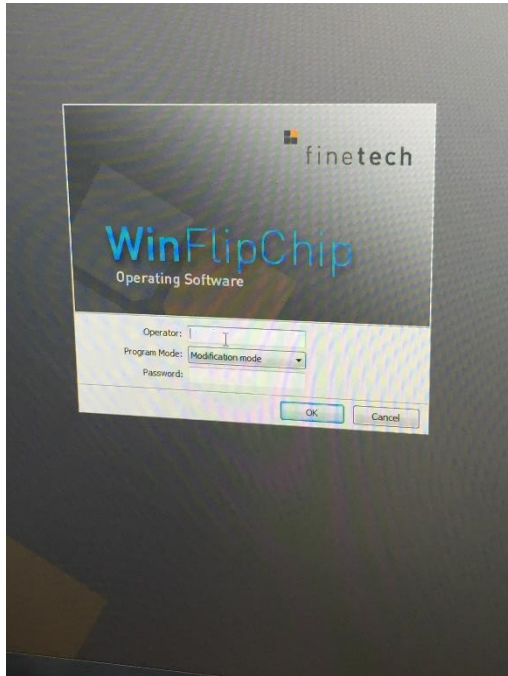

Figure 5: Login window
- In the login screen (Figure 5), type in your name for operator, choose “Modification mode” for the Program mode. The password is “finetech”.